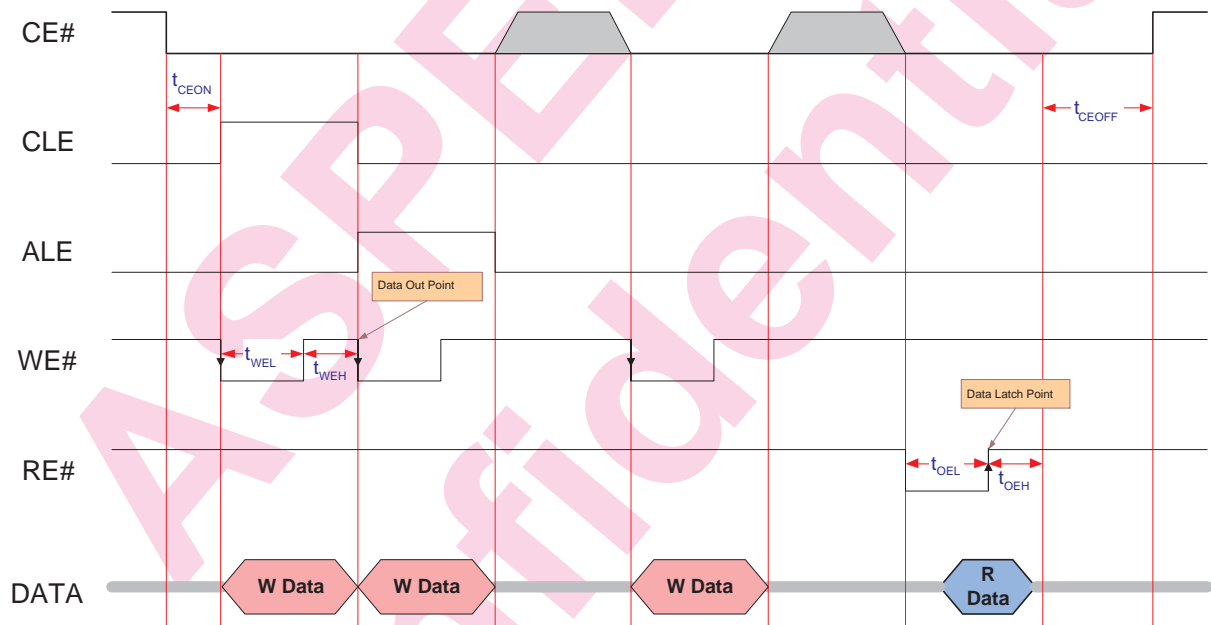

Figure 64: NAND Flash Timing
- Figure 64: NAND type flash control timing